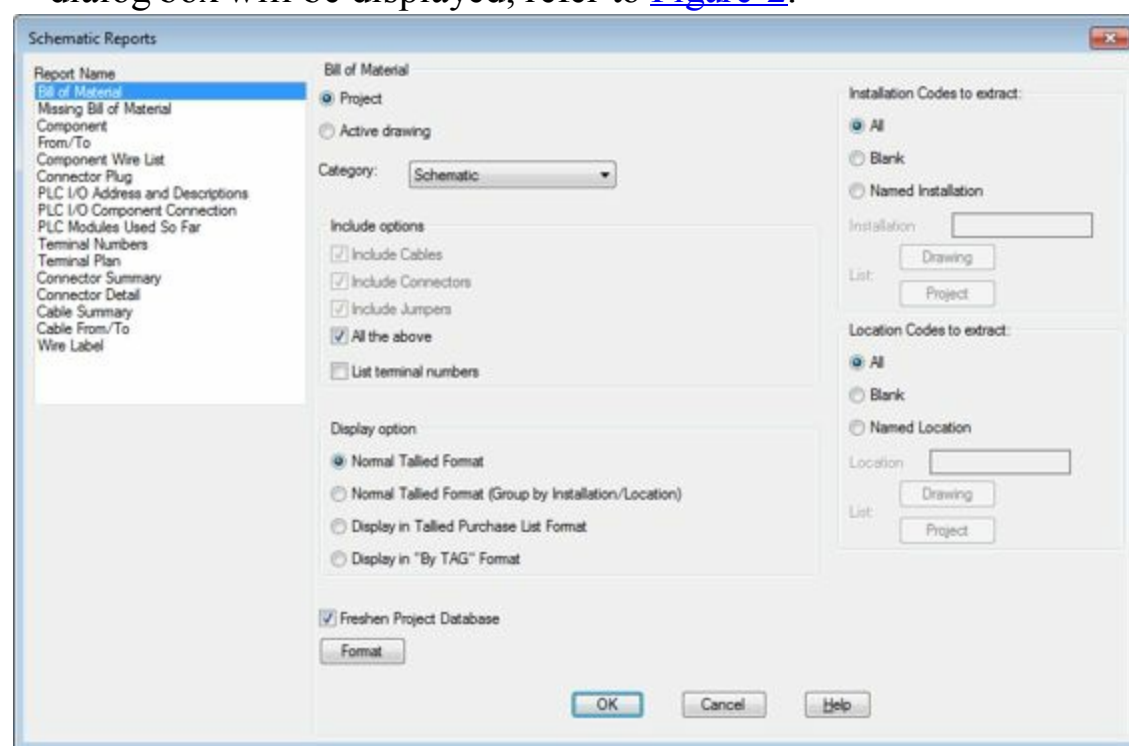

Figure-2. Schematic Reports dialog box
- Click on the **Reports** tool from the **Schematic** panel in the **Reports** tab. The **Schematic Reports** dialog box will be displayed; refer to Figure-2.